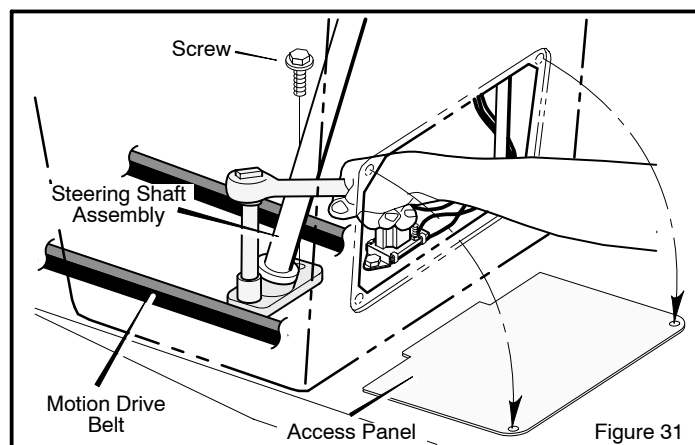

Figure 31
8. Remove the **access panel** (Figure 31).
9. Remove the two **screws** that attach the **steering shaft assembly** (Figure 31). Raise the steering wheel and **steering shaft assembly**. Pull the **motion drive belt** under the **steering shaft assembly**.
9. Attach the **steering shaft assembly** to the steering plate with two screws (Figure 31).
10. Attach the **access panel** (Figure 31).